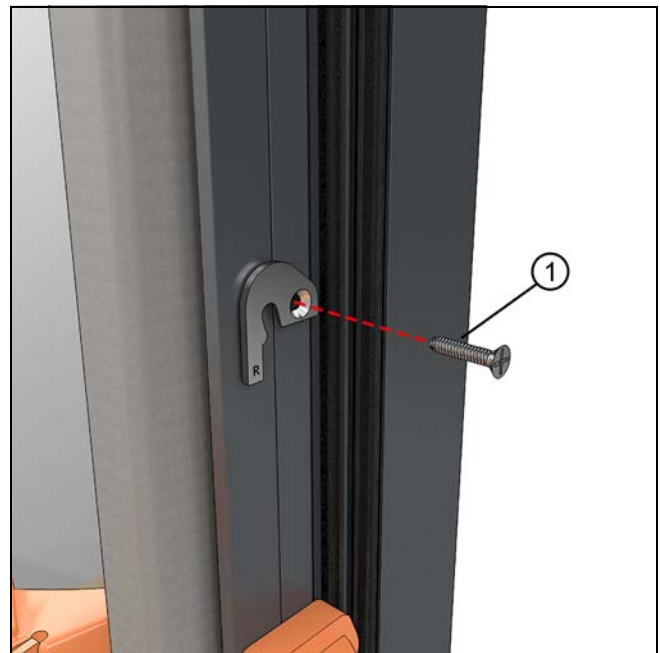

Figure 244 Stationary brackets
22. Complete shimming and fastening around the entire perimeter using the installation holes and/or hardware holes. See Figure 242, Figure 243, Figure 244, and Figure 245.